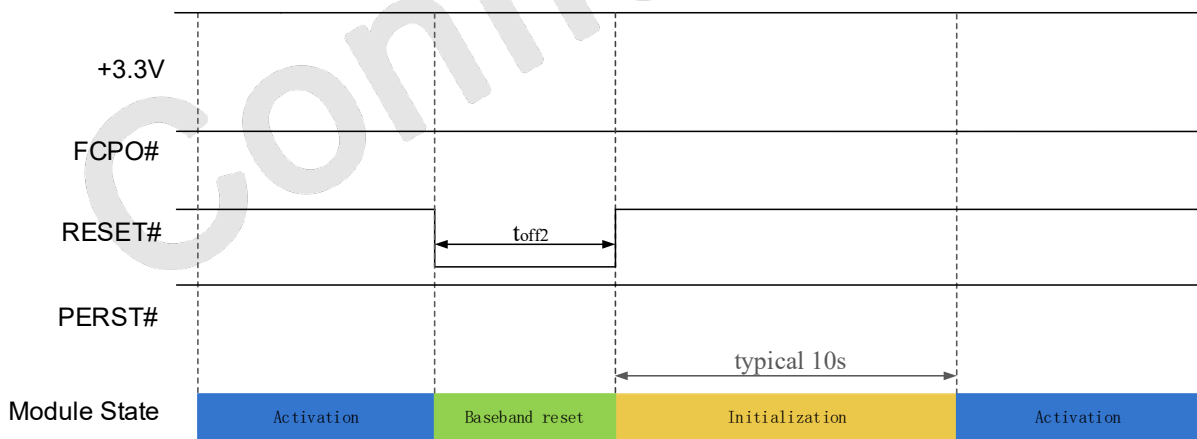

Figure 3-8 Reset timing 1st
- Reset timing 1st in Figure 3-8, PMU of module internal always on in reset sequence, recommend using in FW upgrade and module recovery;